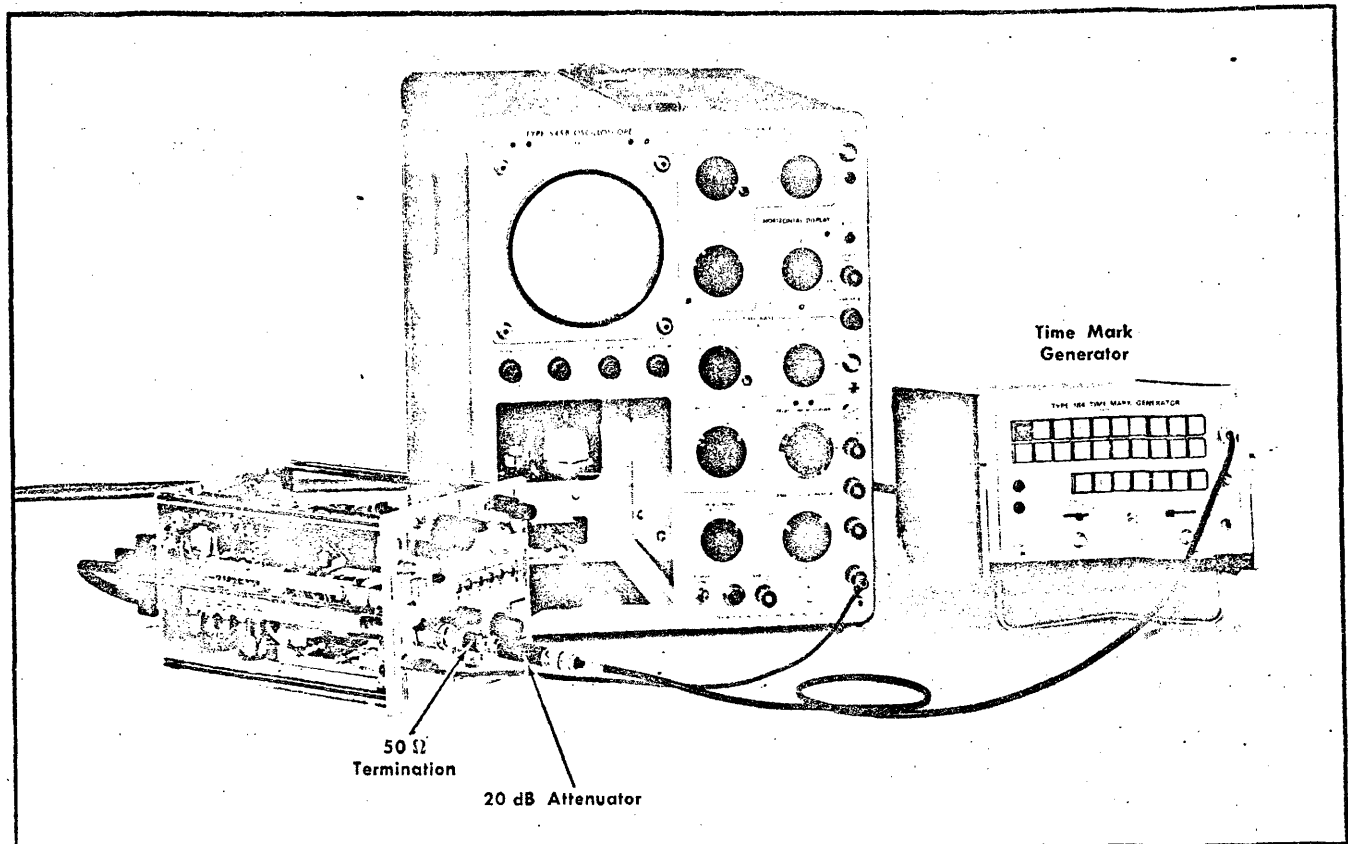

Fig. 6-13. Equipment setup to adjust and check kHz/CM dispersion accuracy (steps 6 and 7).
- Equipment setup is shown in Fig. 6-13.